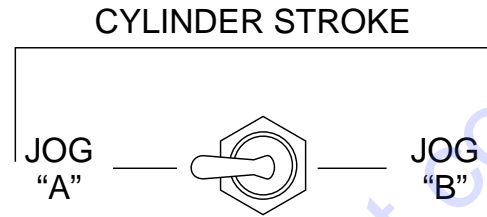

Figure 53. Manual Cylinder Jogging Switch
2. Place and hold the ***manual cylinder jogging switch*** (Figure 53) to either **JOG "A"** or **JOG "B"** position to test the pressure of that cylinder.